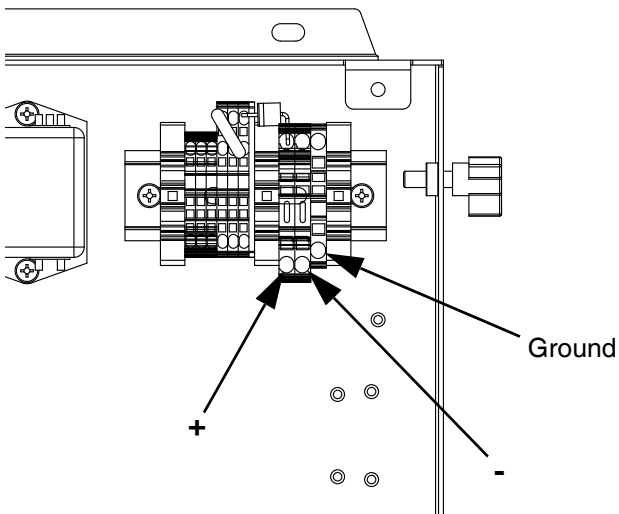

FIG. 13: 24 Vdc Wiring
- For 24 Vdc wiring refer to FIG. 13.